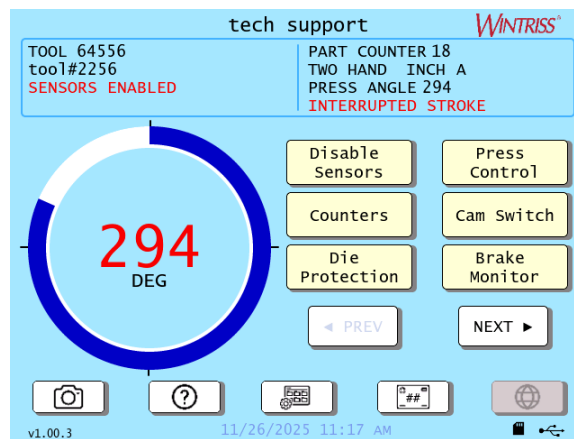

Figure 3-43. Main Run Screen
3. On the Main Run Screen, Figure 3-43, previous section, press Brake Monitor. Brake Monitor screen appears, Figure 5-14. Press Control Stop Time Screen.